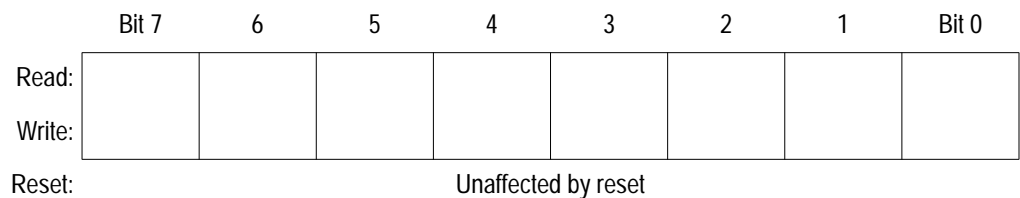

Figure 3-3. Index Register (X)
In the indexed addressing modes, the CPU uses the byte in the index register (X) shown in **Figure 3-3** to determine the conditional address of the operand. See **11.3.5 Indexed, No Offset**, **11.3.6 Indexed, 8-Bit Offset**, and **11.3.7 Indexed, 16-Bit Offset** for more information on indexed addressing.